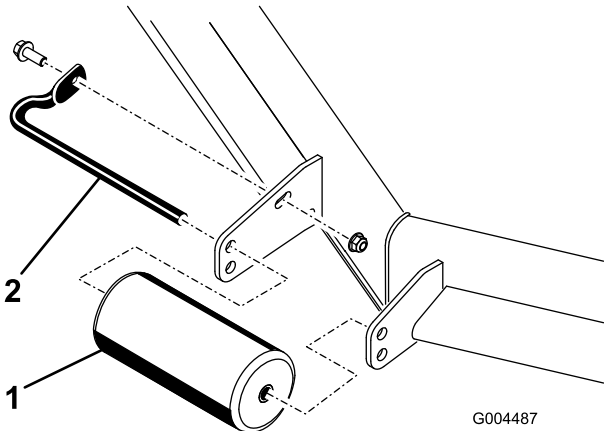

Figure 27
4. Remove the fasteners securing each roller on your mower deck and move the rollers up or down as desired; refer to Figure 27 through Figure 31 as applicable for your mower.